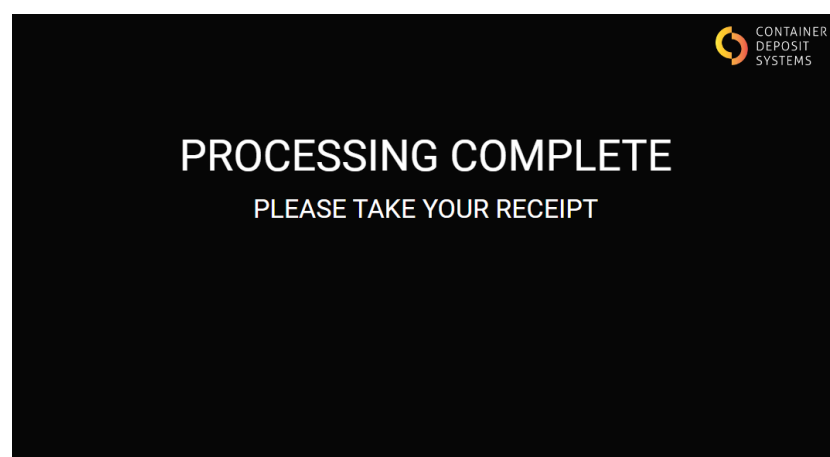

Figure 18. Transaction complete
- Printer will print a QR coded ticket and the screen will change as seen on Figure 18. Transaction complete